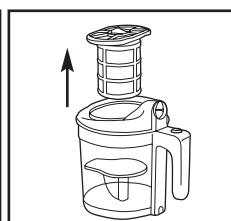

Fig.6
5. To remove the central filter **23** from the dust container, lift out (Fig.6).